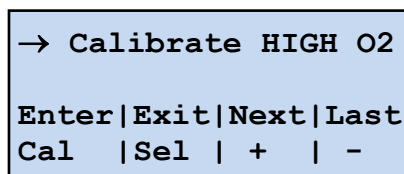

Figure 34. Oxygen High point selection screen.
19. From the **Oxygen High point selection screen** (see Figure 34) press once the  button to access to the **CO₂ High point selection screen**.